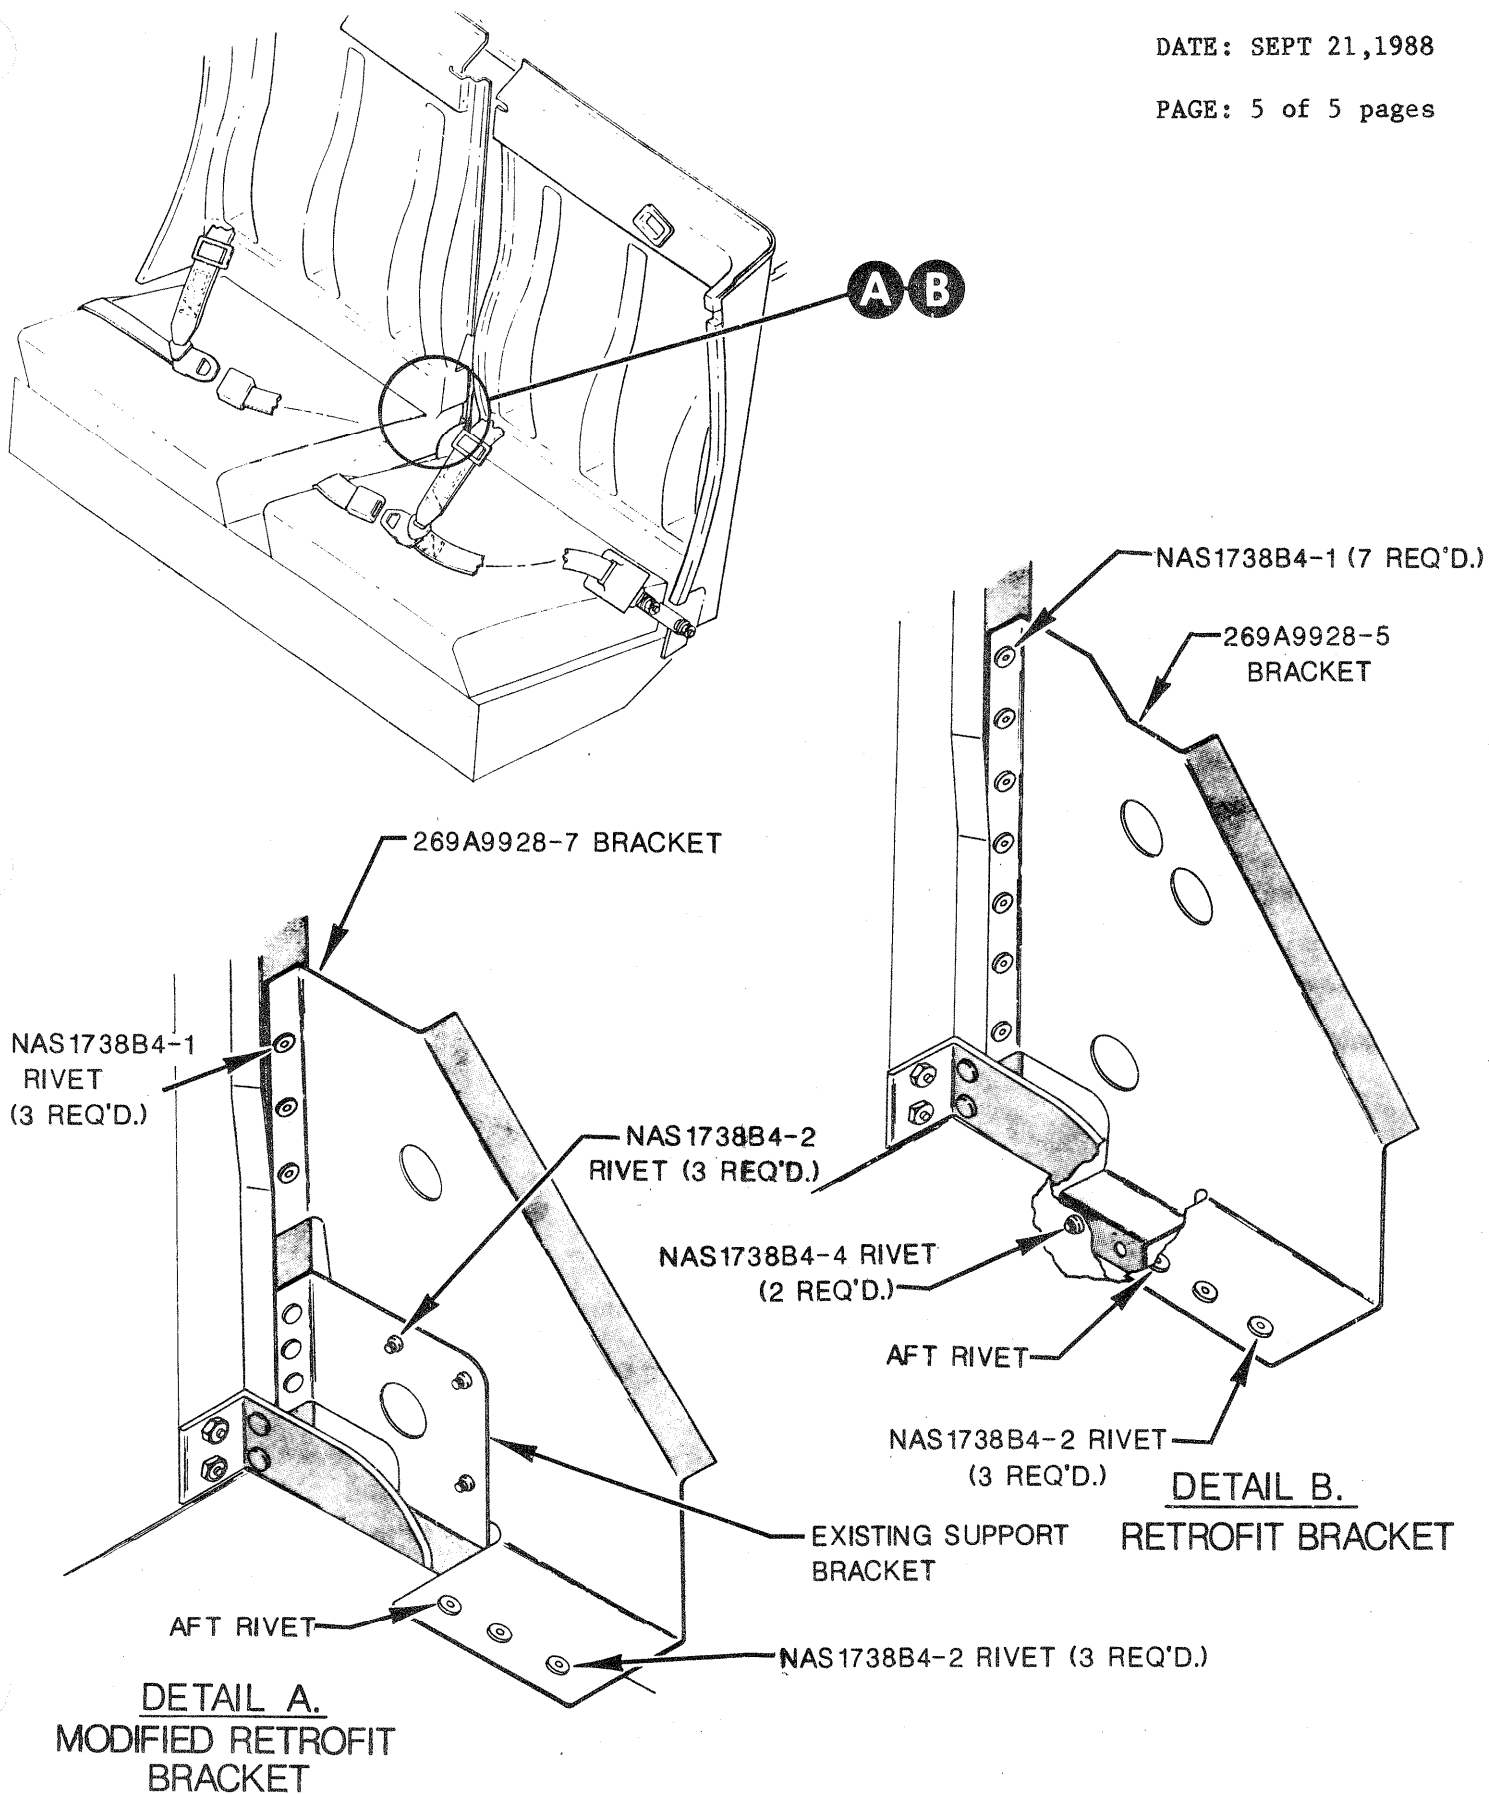

FIGURE 1. CENTER COVER SUPPORT BRACKET
- o The following procedure provides instructions to install either support bracket (269A9928-5 and 269A9928-7). Refer to Figure 1, Detail A when installing 269A9928-7 bracket (Modified Retrofit Kit) or Figure 1, Detail B when installing 269A9928-5 bracket (Retrofit Kit)
- o The existing support bracket does not need to be removed in order to install the improved support bracket on Model 269C Helicopters with Serial Numbers of 1150 through 1299. As shown in Figure 1, Detail A, the retrofit bracket fastens to the existing support bracket.
- (1) Remove AFT RIVET from seat bottom. (Refer to Figure 1 for location of AFT RIVET.)
- (2) Hold bracket in position between seat back and seat bottom as shown in Figure 1.
- (3) Transfer AFT RIVET hole location from seat bottom to mounting flange of support bracket.
- (4) Hold bracket firmly in position and drill a hole through bracket upper mounting surface and seat back. Secure bracket to seat back with cleco fastener.
- (5) Drill hole through bracket forward mounting flange and through seat bottom; secure bracket to seat bottom with cleco fastener.
- (6) Ensure that bracket is in proper position before continuing with the installation.
- (7) Drill remaining holes and secure bracket to seat structure with appropriate rivets at locations shown in Figure 1, Detail A (Retrofit Kit) or Detail B (Modified Retrofit kit), as applicable.